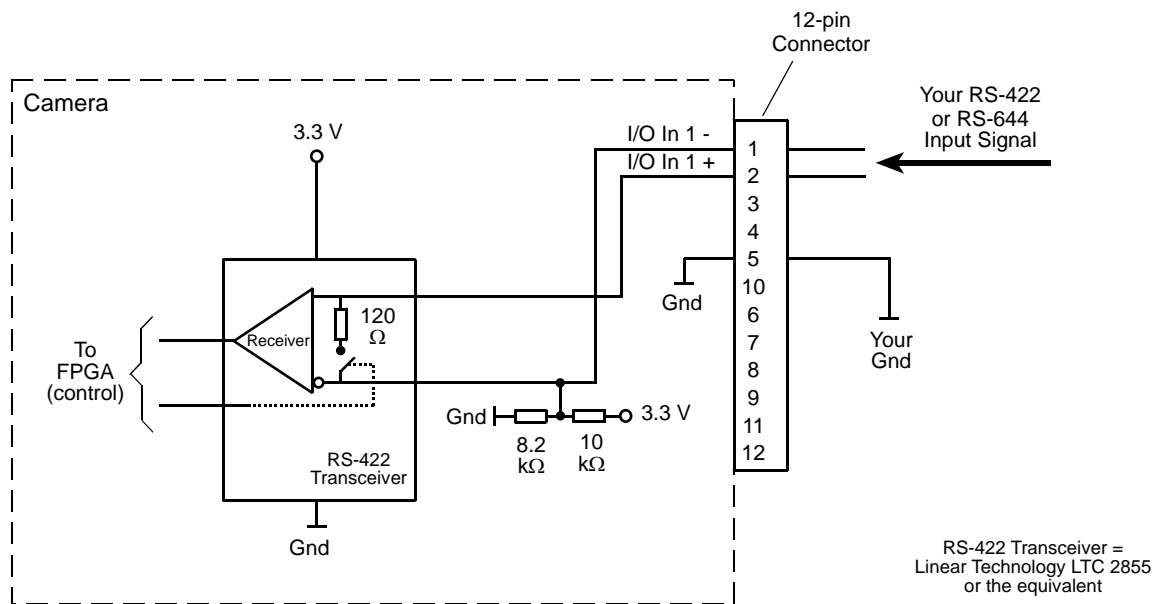
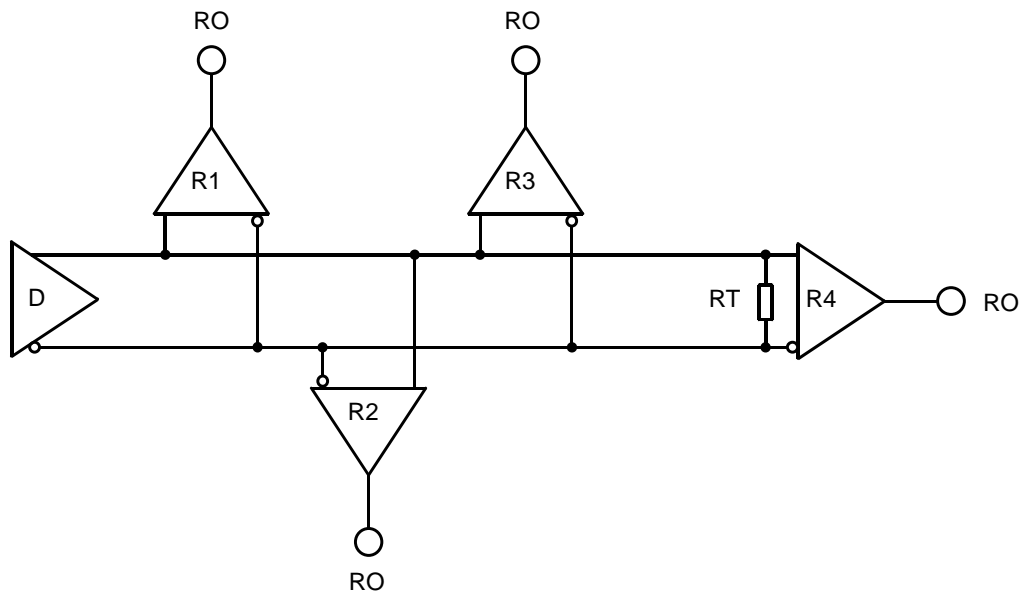

Fig. 20: Inputting RS-422 or RS-644 Signals
Fig. 21: RS-422 Interface Circuit Including Four Receivers as an Example
As shown in Fig. 20 and in the I/O schematic at the beginning of this section, each input is designed to receive an RS-422 signal. For the camera's I/O circuitry to operate properly, you must supply a ground as shown in Fig. 20.
The RS-422 standard allows devices to be used with a bus structure to form an interface circuit. So, for example, input line 1 on several different cameras can be connected via an RS-422 bus as shown in Fig. 21.
The separations between receivers and bus should be as small as possible. The bus must be terminated by a 120 ohm termination resistor (RT). Each RS-422 input on the cameras includes a switchable 120 ohm termination resistor as shown in Fig. 20. When a camera input of the last receiver in the bus terminates the bus (as shown in Fig. 21.: R4), the termination resistor on that input should be enabled. You should not use multiple termination resistors on a single bus. Using multiple termination resistors will lower signalling reliability and has the potential for causing damage to the RS-422 devices.
For the camera's I/O circuitry to operate properly, you must supply a ground as shown in Fig. 20.